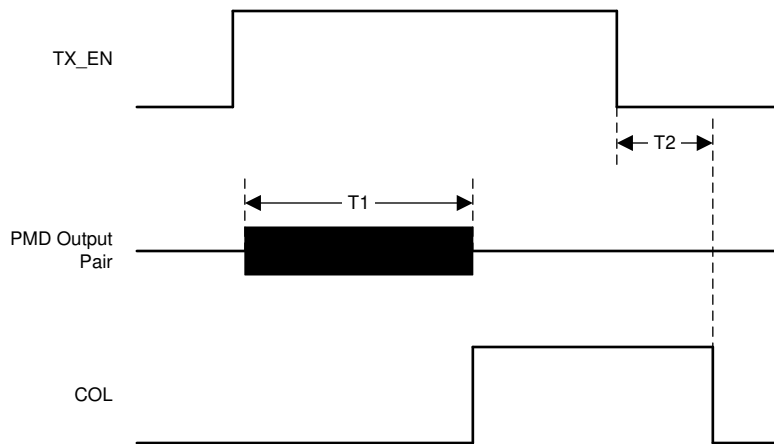

Figure 7-15. 10BASE-Te Jabber Timing
- (1) Ensured by production test, characterization or design.
(2) See Figure 7-15.